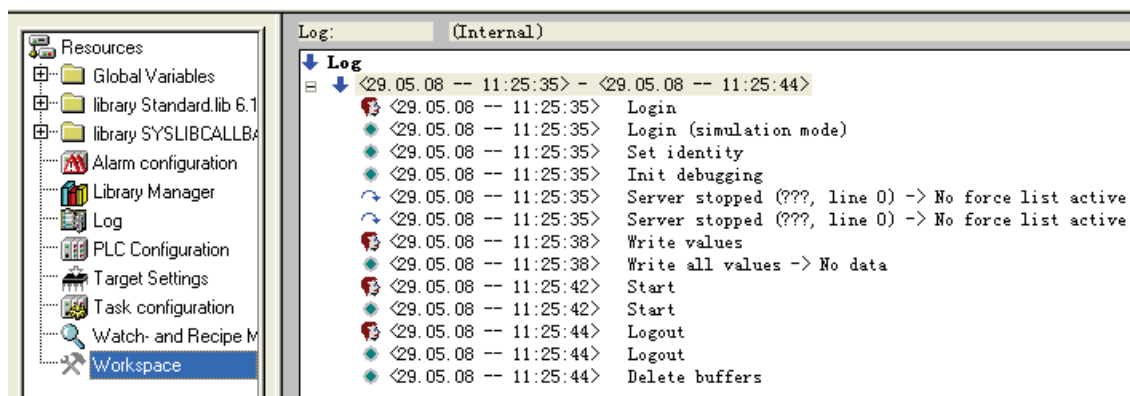

Figure 7-6-12 Log List
- “Activate logging” : Activate log function to display log list, shown in figure 7-6-12. A serial User actions, Status changes, Internal actions and Exceptions are recorded in the log, such as Login, Running, Init debugging, Write value, Logout, Delete buffers.
generated in simulation mode, shown in figure 7-6-12.